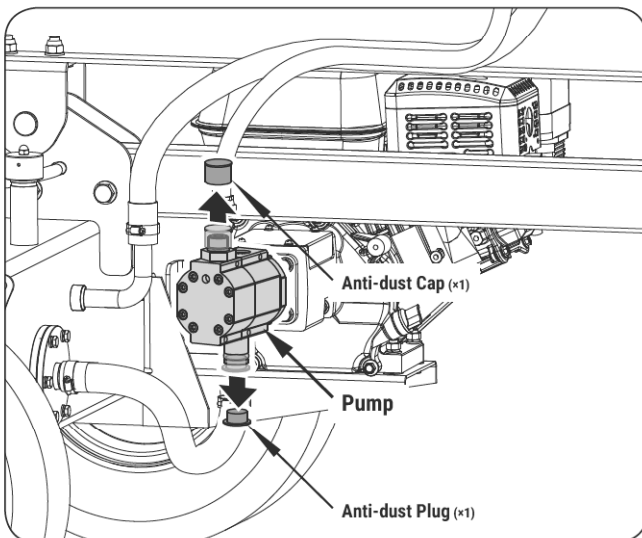

Figure 9b
2. Remove the anti-dust cap and anti-dust plug from the pump. (See **Figure 9b.**)